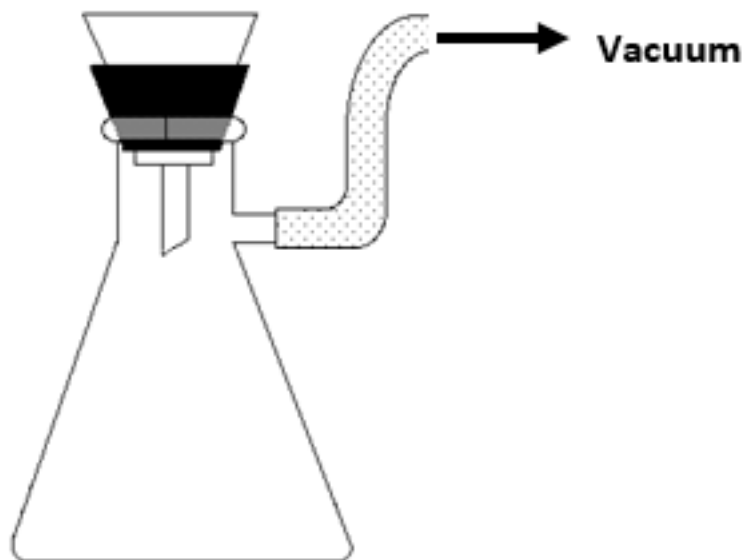

Figure 2: Filtering Apparatus
5. While the crystals are forming in step 4, set up the vacuum filtration apparatus as shown in Figure 2. This apparatus consists of a 125 mL filter flask, a black #3 neoprene adapter, and a plastic filtering funnel with a white fritted glass filter inside. Clamp the filter flask securely to the support rods. Wet the tip of the thick rubber tubing and connect it to the flask from vacuum supply in the lab.